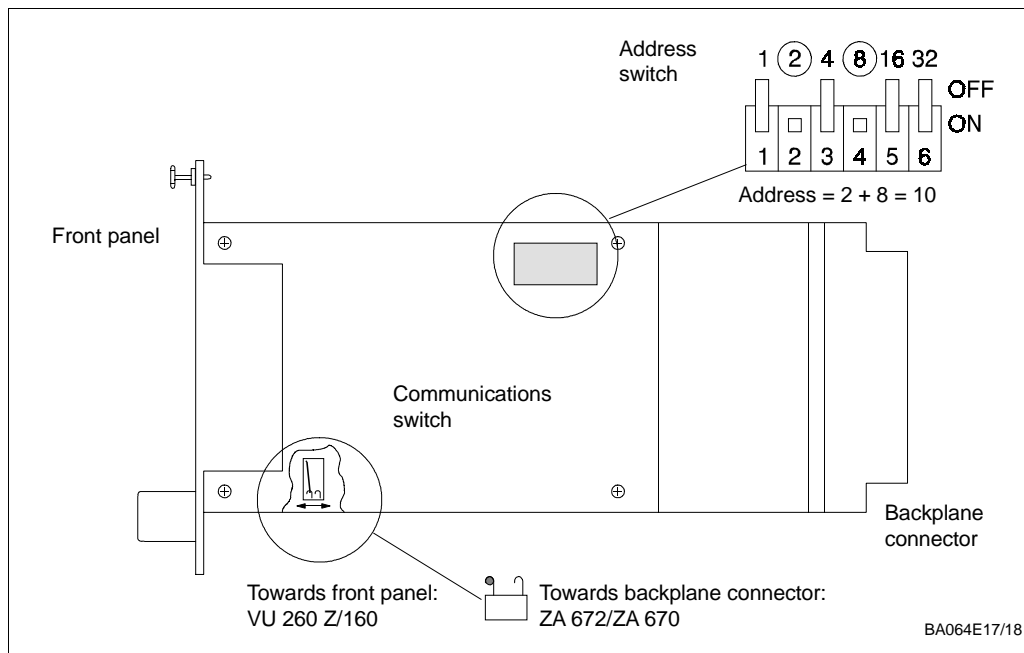

Fig. 2.10:
Fig. 2.10 shows the configuration elements for remote operation of the Silometer FMC 672 Z/677 Z transmitter.
- When on, each switch is assigned the value shown in Fig. 2.10, inset.